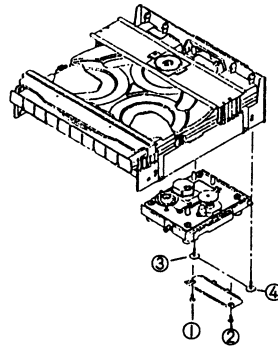

Figure 4
- 2) Remove the two screws ③, ④ (Figure 4).